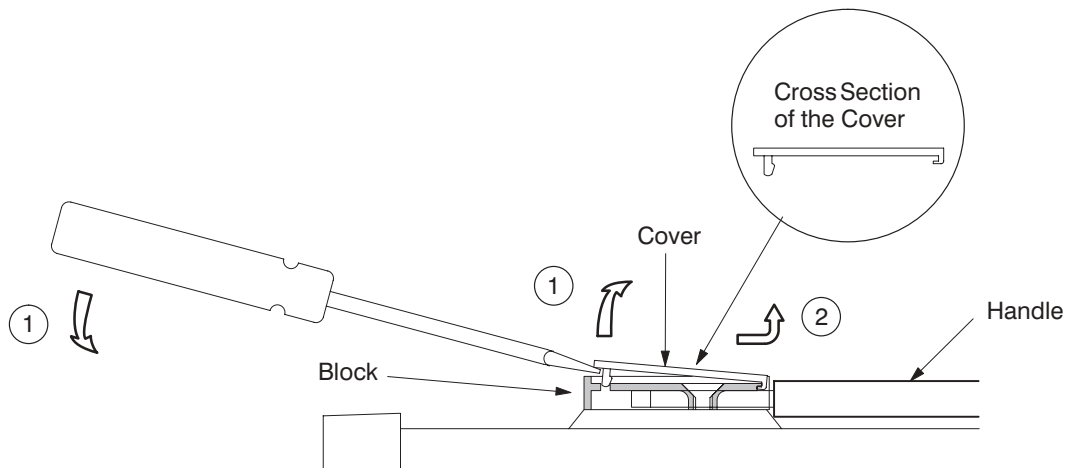

Figure 2: Construction of the handle retainer (cross section)
2. Release the latch of the cover using the flat-bladed screwdriver. See Figure 2 and refer to ①.
3. Remove the cover by sliding it sideways to the handle. See Figure 2 and refer to ②.